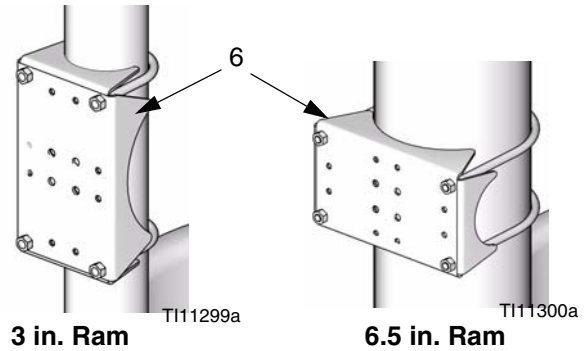
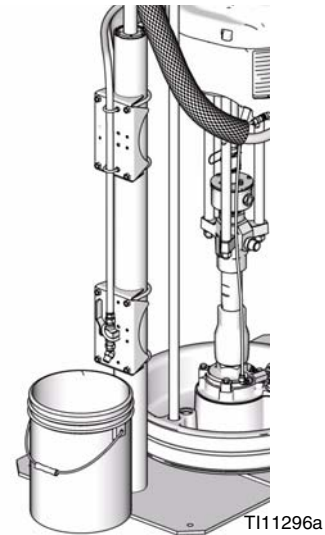

FIG. 2: Bracket Orientation
FIG. 5: Pail Setup
5. Apply thread sealant and thread adapter (2) into top of bleeder valve (1).
6. Orient a bracket (6) for 3 in. or 6.5 in. ram as shown in FIG. 2.
10. Thread four hex nuts onto two 1 in. u-bolts (10) as far as they will go.
11. Orient second bracket (6) for 3 in. or 6.5 in. ram. See FIG. 2. Hold hose against second bracket. Install two u-bolts (10) over hose, and use second set of hex nuts (11) to secure u-bolts to bracket. See FIG. 5.
12. Select correct u-bolts (7 or 8) for ram size; see Parts list. Attach two u-bolts to bracket with ball valve. Attach bracket to ram post at desired height of pail you will purge into. Secure bracket to post with hex nuts (9).
13. Attach bracket with two small u-bolts to top of ram post using two large u-bolts (7 or 8). Secure bracket to post with hex nuts (9).
14. Route end of hose over ram crossbar and down to bleeder valve on pump lower as shown in the following figure. Thread hose onto adapter (2).